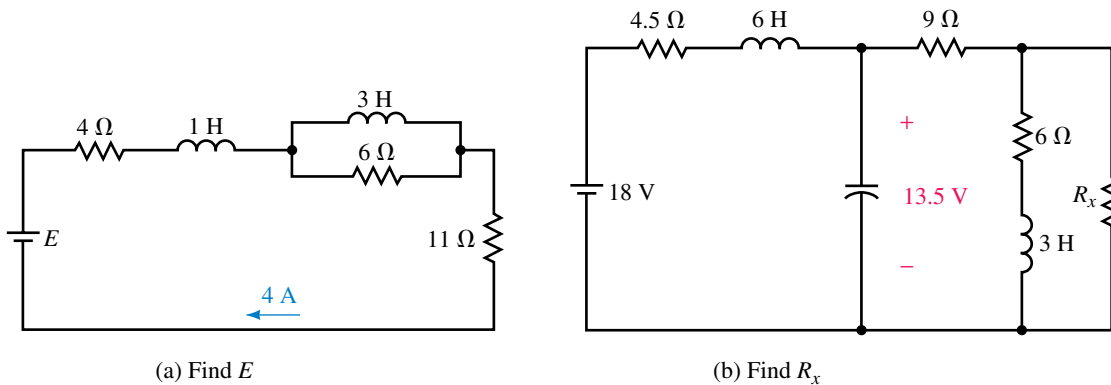

FIGURE 13–41
33. Find the energy stored in the inductor of Figure 13–42.